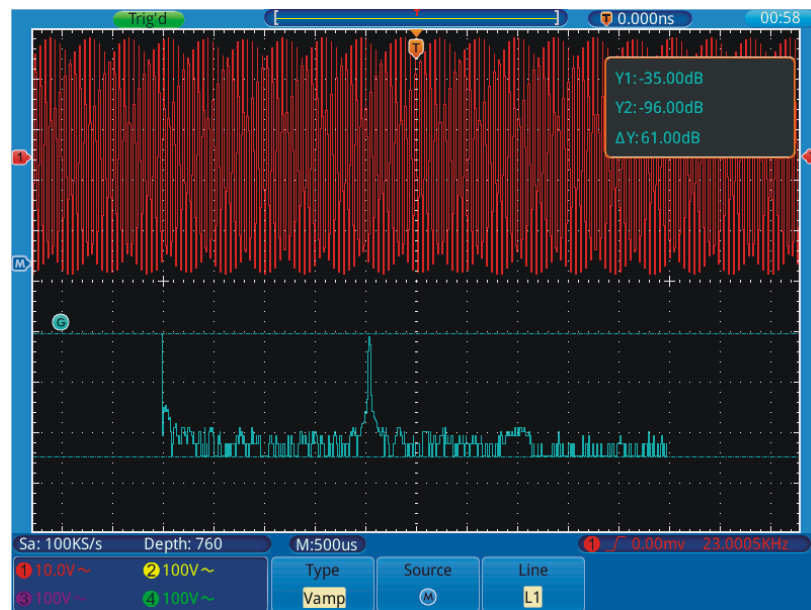

Figure 34. Wave of Vamp cursor measurement.
- 4 Select **Line** in the bottom menu; select **L1** in the right menu. The \textcircled{G} icon will appear beside the dotted line of L1, represents you can turn the **G** knob to adjust the position of L1. Select **L2** to adjust the position of L2. Select **L1&L2** to adjust the two cursors together. The cursor measure window at the top right shows the present position of two cursors and the absolute value of amplitude difference (see Figure 34).